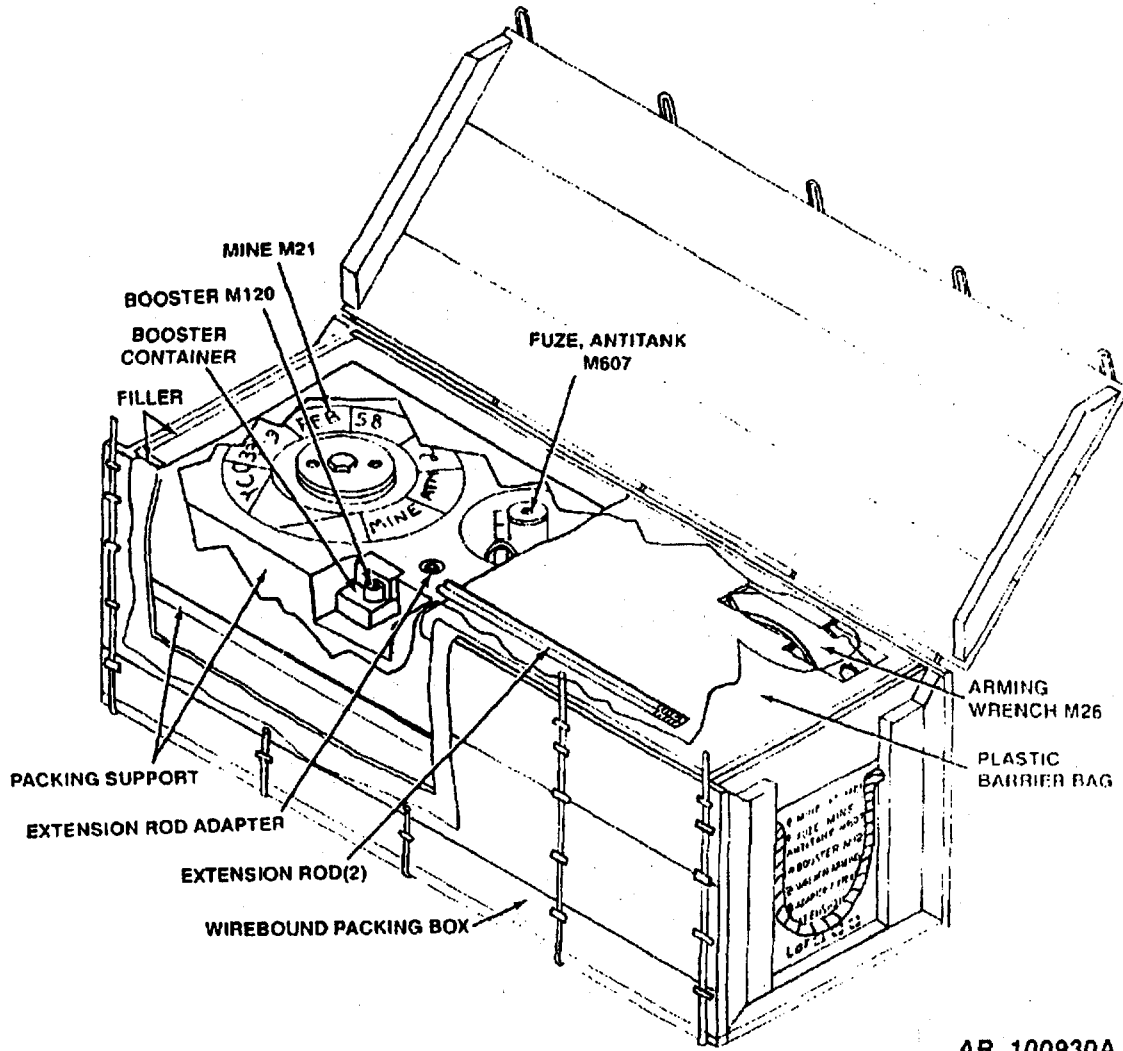

Figure 2-54. Wirebound packing box for mine, antitank: M21 and components.
- (1) Remove mine and components from packing box (fig. 2-54).
- (2) Inspect mine and components for serviceability. Check for cracks, dents, or